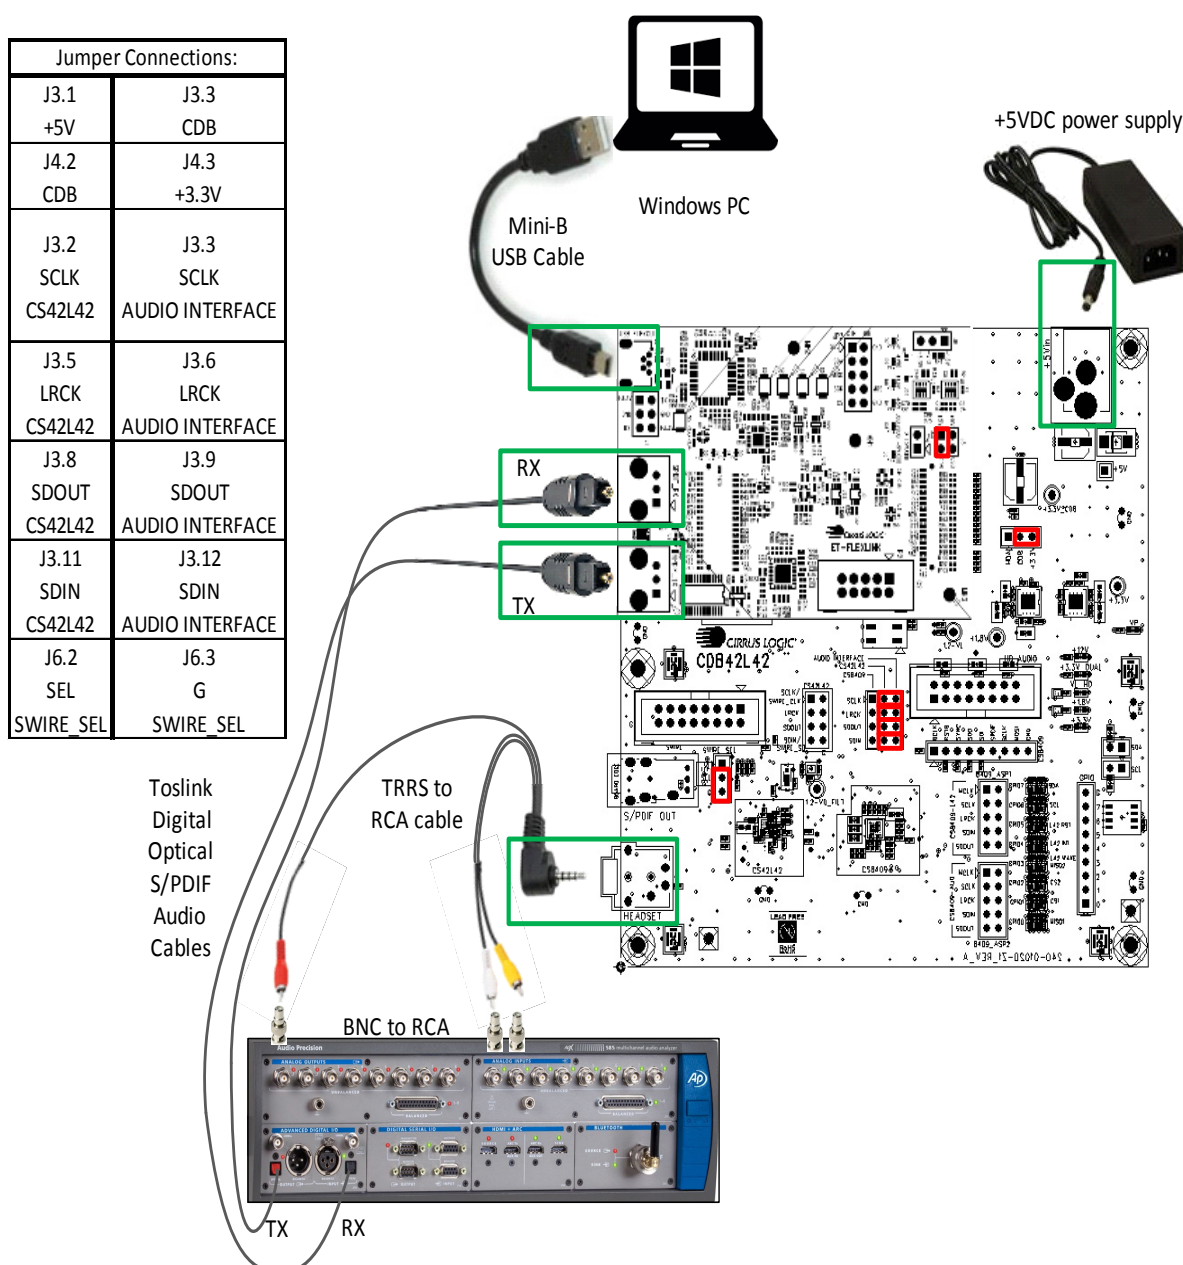

Figure 2-1. Jumper Settings and Cabling (FlexGUI Mode with S/PDIF RX/TX)
2. Set CDB42L42 jumpers J3, J4, and J6 and ET-FLEXLINK J3, shown by red indicators in Fig. 2-1. See Table 4-1.
3. Connect cabling to the CDB42L42 as shown by green indicators in Fig. 2-1.